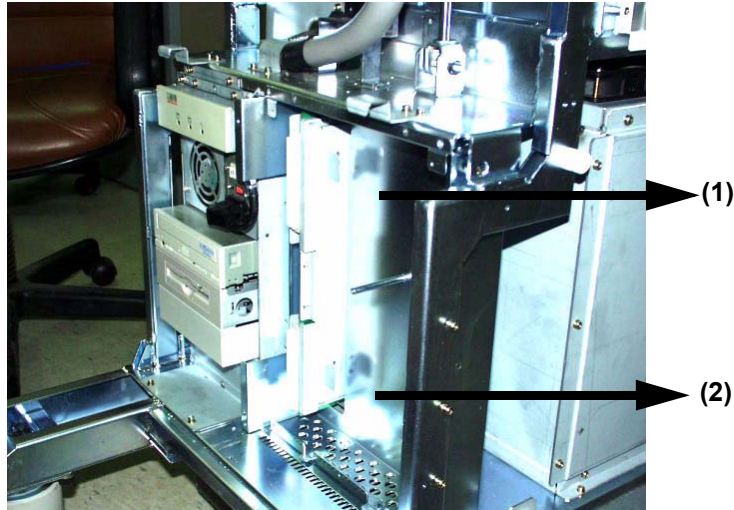

Figure 8-115 Unscrew 2 screws to remove the LMT B'd
- 2.) Unscrew two (2) screws (1-2) to remove the LMT Board. Refer to Figure 8-115 on page 8-64 .